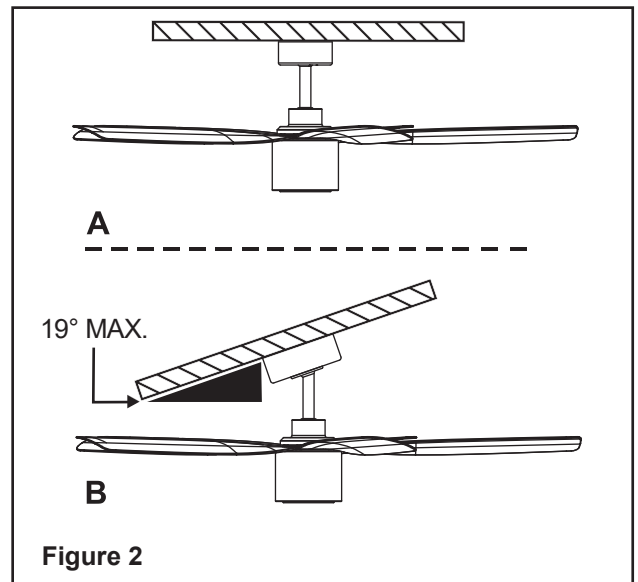

Figure 2
2. Determine mounting method to use. (Figure 2)
- 2. Pass the 120 volt supply wires through the center hole in the mounting bracket (A). Install the mounting bracket (A) to the outlet box with the screws and washers provided with your outlet box. Securely tighten the two mounting screws. (Figure 2)